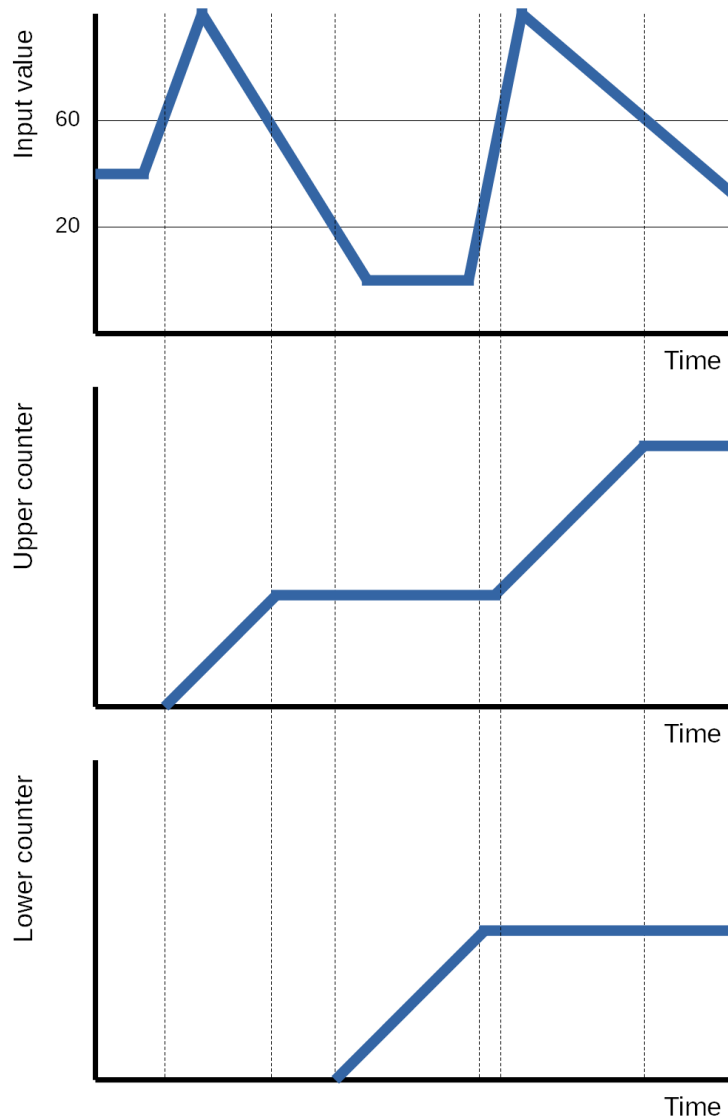

Fig. 9: Example of timers operation
- select the operating mode of the alarm output (registers 4010, 4015) as shown in Figure 9,